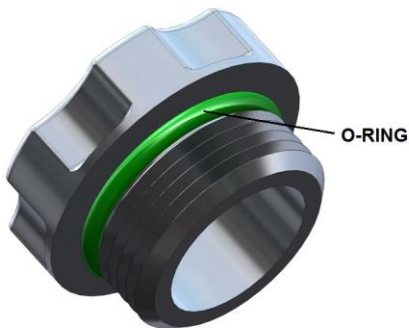

Figure 6
**NOTE:** Oiling the billet fill cap's O-ring (**Figure 6**) will ease the cap removal/reinstallation process and is recommended.